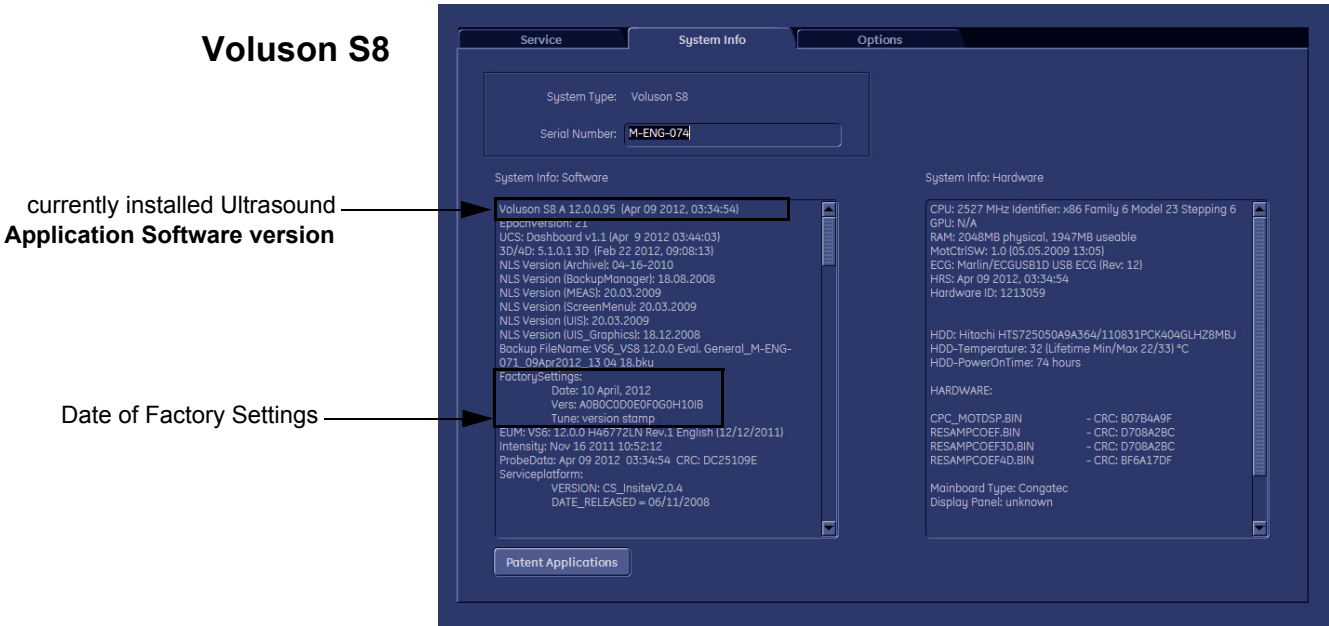

Figure 8-1 Version check (System Setup - Administration - SYSTEM INFO page)
- check the current Application Software version (Figure 8-1) and the installed Options (Figure 8-2)